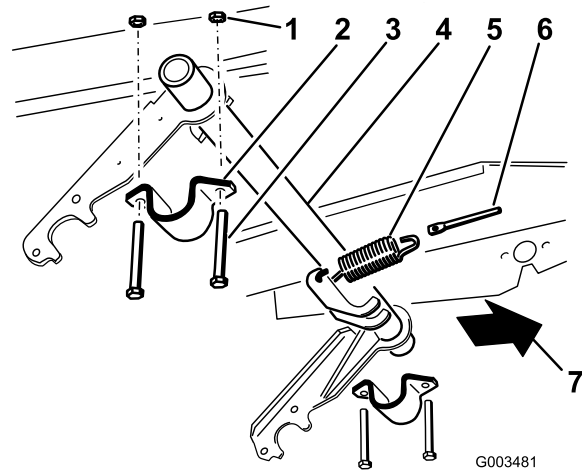

Figure 5
1. Connect the extension spring to one of the spring levers on the pivot tube and to the spring rod (Figure 5).
2. Loosely install the pivot tube bracket onto the right side (Figure 5).
3. Slide the right-hand side of the pivot tube into the right side pivot tube bracket (Figure 5).
5. Raise the left-hand side of the pivot tube to the frame and install it with a pivot tube bracket, 2 bolts (3/8 x 3 inch) and 2 locknuts (3/8 inch) (Figure 5).